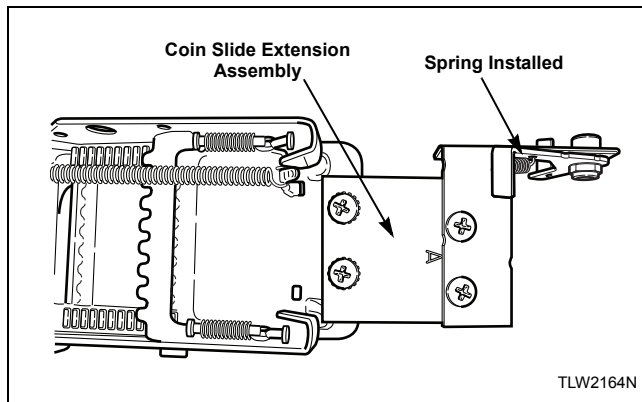

Figure 37
6. Install coin slide extension assembly onto top of coin slide using two remaining screws and lockwashers. Refer to *Figure 37*.
3. Install slide extension onto top of coin slide using two screws. Refer to *Figure 37*.